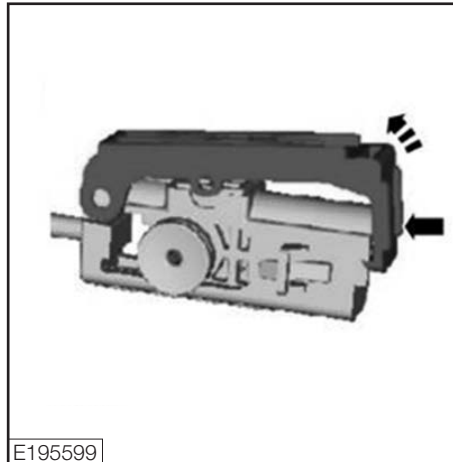

Figure 96
1. If necessary, open the adjuster lock (Fig. 96).